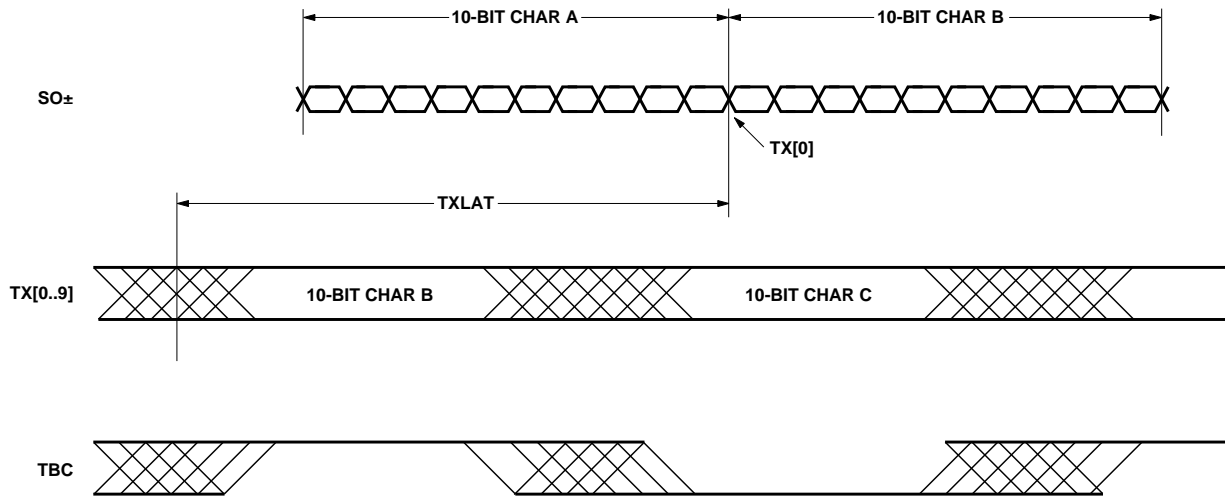

Figure 4. Transmitter latency. $TX[0]$ is first bit on SO_{\pm} .
1. The transmitter latency, as shown in Figure 4, is defined as the time between the leading edge of a parallel data word and the leading edge of the first transmitted serial output bit of that data word.